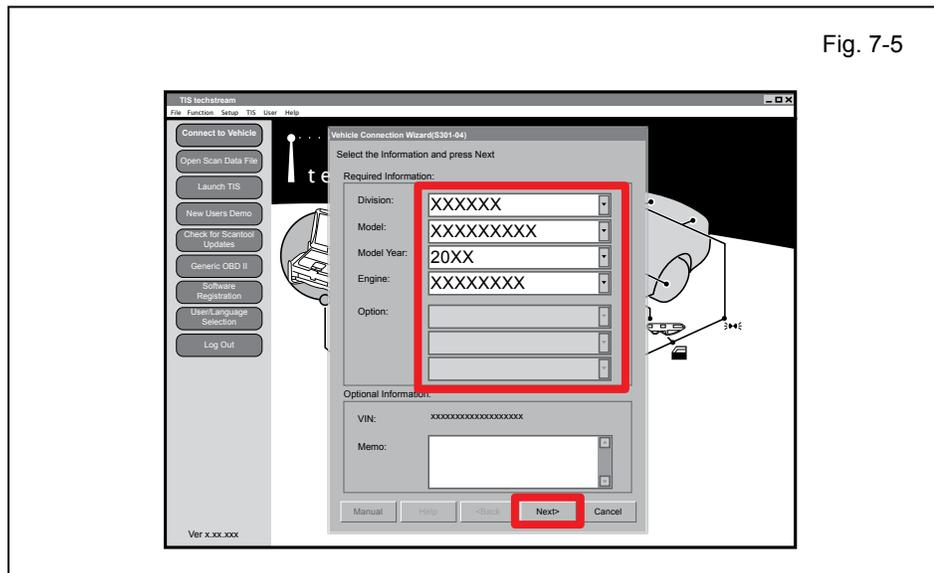

Fig. 7-5
- g. Confirm that the information displayed on the Vehicle Connection Wizard is correct for the vehicle. If not, verify that the Techstream is properly connected. (Fig. 7-5)
- h. Click “Next>.” (Fig. 7-5)